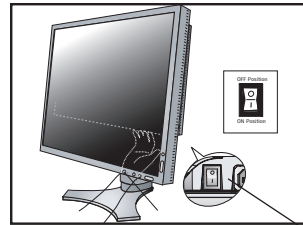

Figure 9
8. The vacation switch on the back side of the monitor near the AC inlet must be in the ON position for the monitor to function (Figure 9). Turn on the monitor using the front power button, then turn on the computer.